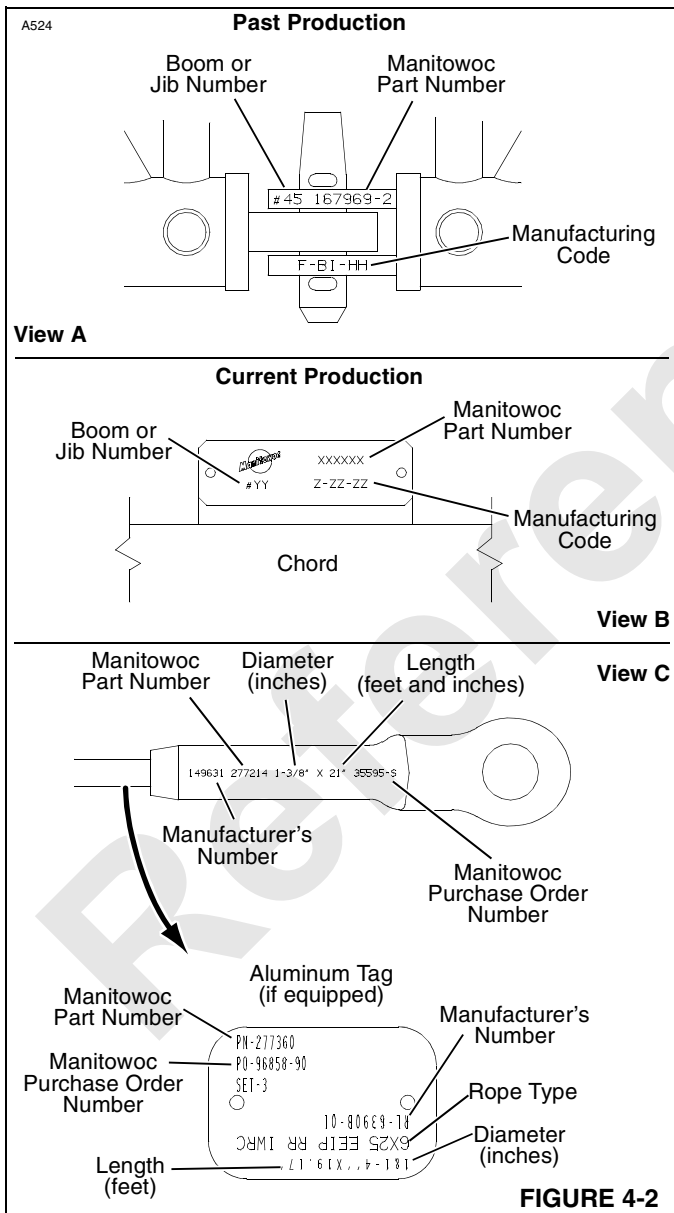

FIGURE 4-2
- **Past Production** (Figure 4-2, View A) — boom or jib number, part number, and manufacturing code stamped into two connectors (diagonally opposite) on both ends of each insert and on end of top and butt.
- **Current Production** (Figure 4-2, View B) — boom or jib number, part number, and manufacturing code stamped into a plate mounted on all four chords of each section.
To aid in identification, the pendant part number and length are stamped into the pendant ends (see Figure 4-2, View C).